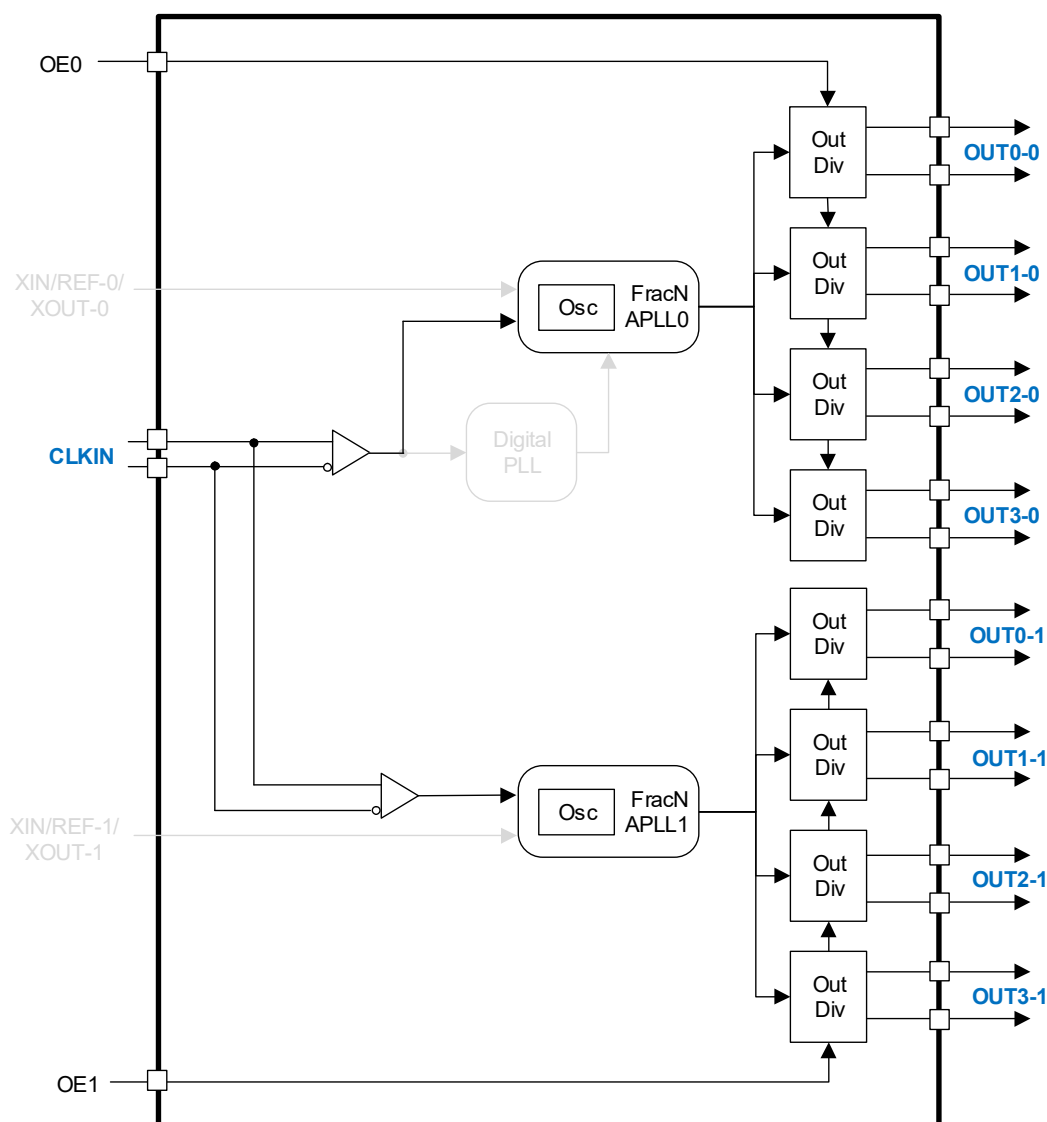

Figure 4. Clock Generator Mode with RC32508A when External Reference is Fed into CLKIN
- As shown in Figure 4, up to two frequency domains can be obtained in this configuration and up to eight differential or 16 LVCMOS outputs can be obtained.